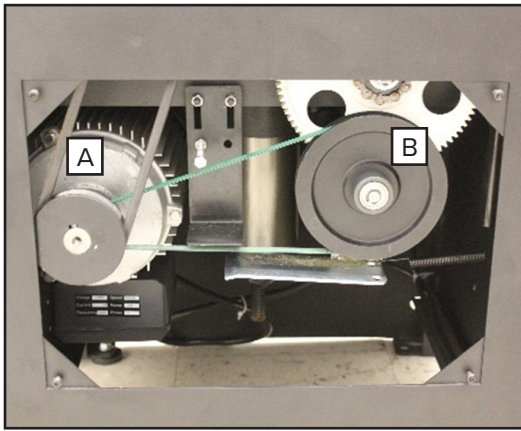

Figure 25: Drive Belt Tensioning.
1. Check the tension of the Cutterhead Drive V-Belt (#228, FIG. 25, A) by applying thumb pressure. The drive belt should not give more than 3/8" in the center.